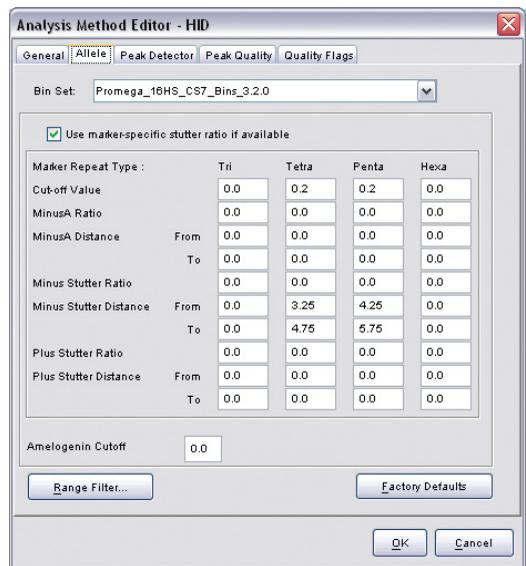

Figure 5. The Allele tab with settings for using a 20% peak filter.
6. Select the Allele tab (Figure 5).
9. Enter the values shown in Figure 5 for proper filtering of peaks when using the PowerPlex® CS7 System. For an explanation of the proper usage and effect of these settings, refer to the Applied Biosystems user bulletin titled “Installation Procedures and New Features for GeneMapper ID Software 3.2”.